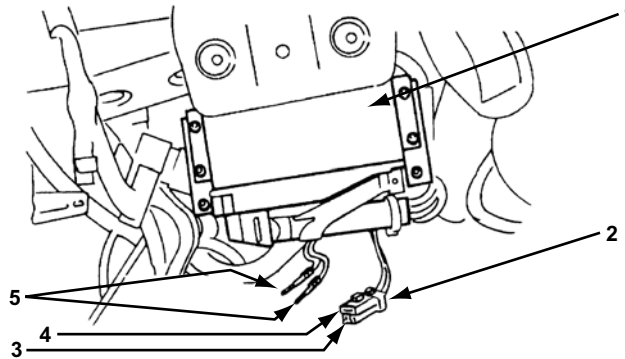

Figure 15-53 1997 Impreza and 1997 (early) Legacy ABS diagnostic connector location
1. Locate the ABS diagnosis connector and diagnosis terminals near the heater assembly on the driver side (Figure 15-53).